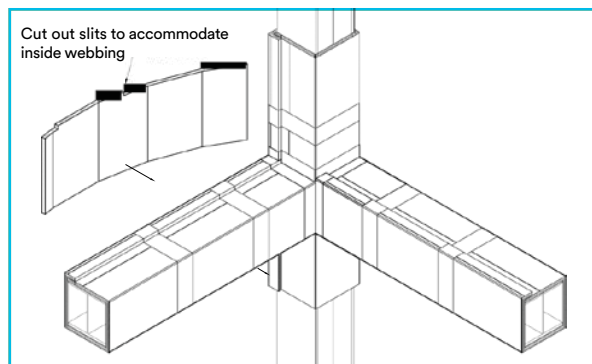

Figure 4
- 4** Tape the E-Mat overlap and perimeter seams with 3M™ Aluminum Foil Tape 437 100 mm (4 in). Centre of tape to be approximately centred over the seam. The inside corner seam should also be taped. Apply pressure on the tape to remove air gaps and secure to E-Mat. Smooth the tape with a hard roller or straight edge applying enough pressure to ensure adequate adhesion of the tape to the E-Mat and to remove any air gaps (*Figure 4*).